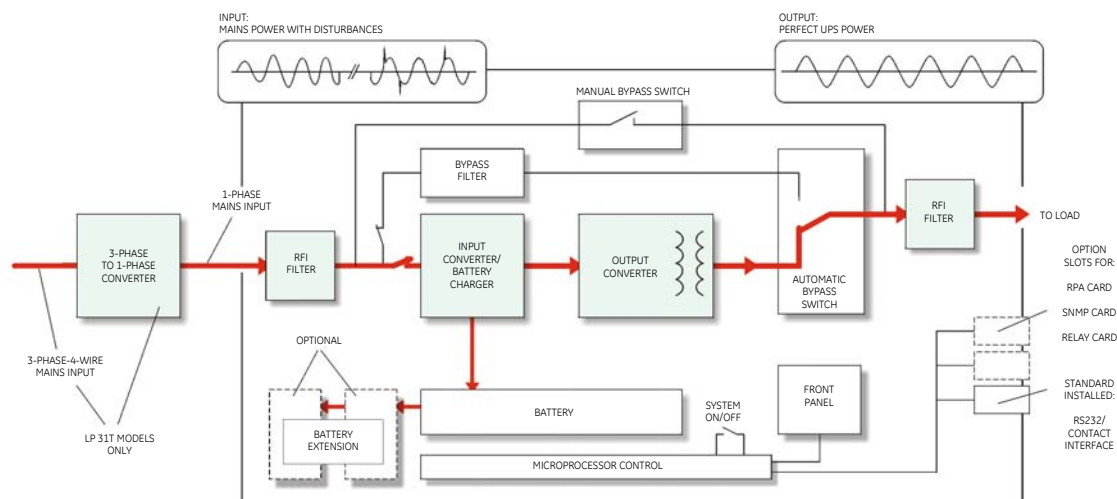

Figure 1 Block diagram of the LP 11/31T UPS, mains present
The UPS stores electric energy in batteries housed in the unit. This allows the UPS to supply output power even when the incoming mains power is cut off completely. Energy is stored as Direct Current (DC), while input and output energy are Alternating Current (AC) in sine wave form. Therefore the UPS contains an input converter (AC to DC) and an output converter (DC to AC) (See fig.1).